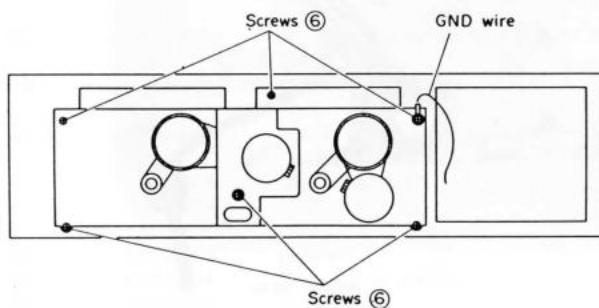

Fig.1-3
- 2) The mechanism assembly can be removed by pushing the EJECT button, and removing the 6 screws ⑥ which secure the mechanism assembly. (Fig.1-3)